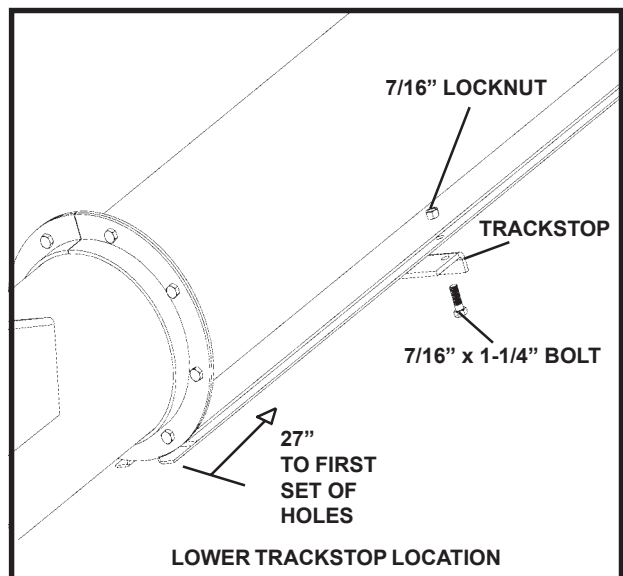

Figure No. 6
1. Slide the roller trackshoe onto track, then attach the lower trackstop to the correct position on track as shown in **Figure No. 6**, using two $\frac{7}{16}$ " x $1\frac{1}{4}$ " bolts and locknuts.